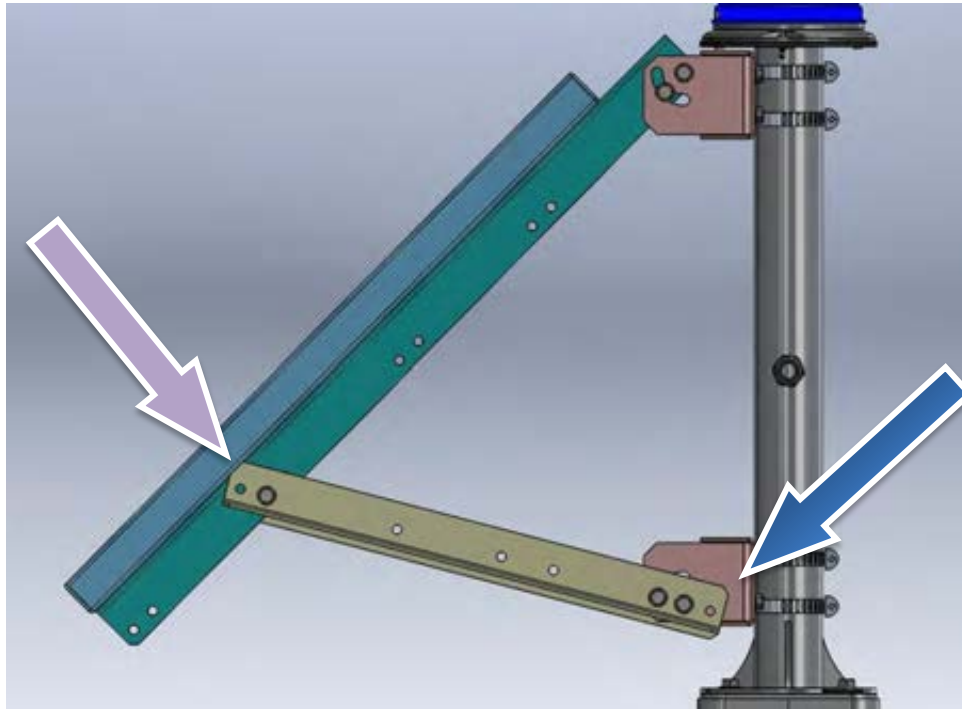

Figure 19. Support rail installation for a solar panel with a tilt angle of 45°
15. Attach one end of the support rail to the lower bucket and attach the other end to the corresponding panel mounting rail using a 5/16 - 18 x 3/4" bolt, flat washers with a lock washer under the nut. Note the orientation of the rail depending on the panel tilt angle as shown in **Figures 19 - 23**. Tighten the bolts at both ends to **12 ft-lbs**.